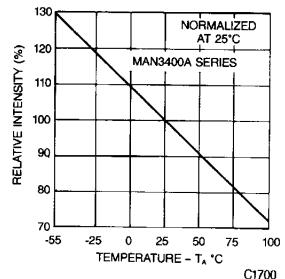

Fig. 3. Relative Luminous Intensity
2. The curve in Figures 3, 6, 9, and 12 is normalized to the brightness at 25°C to indicate the relative Luminous Intensity over the operating temperature range.